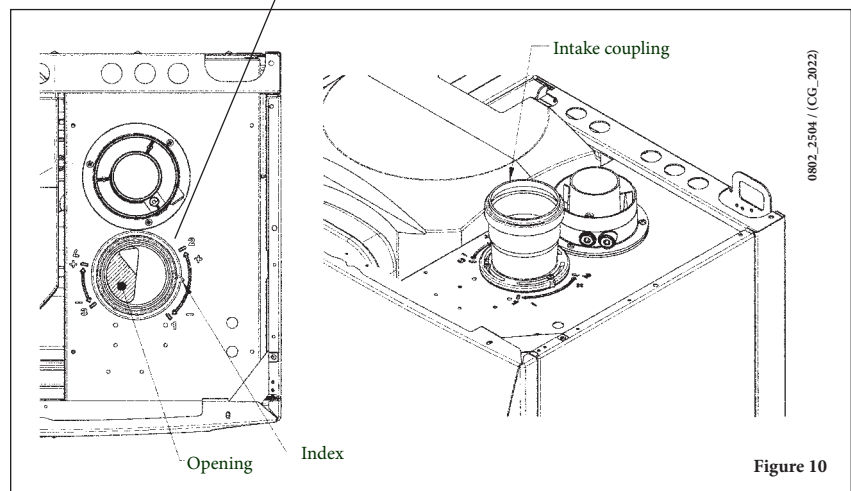

Figure 10
- access the power supply terminal block (figure 10);
- connect the ambient thermostat terminals to terminals (1) and (2);